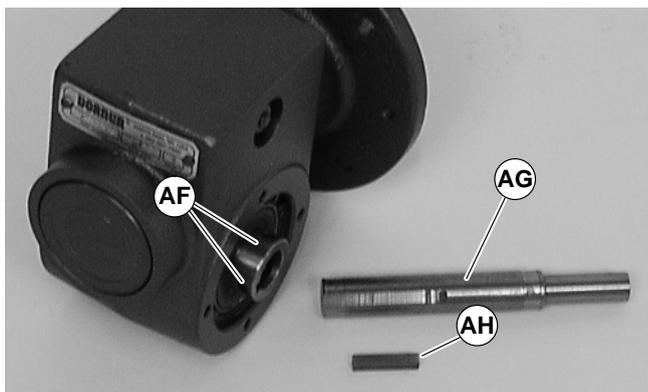

Figure 17
6. Remove two (2) screws (AC) and detach output shaft cover (AD).
7. Loosen six (6) set screws (AF of Figure 17). Remove drive shaft (AG) and key (AH).
8. Remove gear reducer output shaft key (AE).
- Replace the original shaft (AG of Figure 17) and key (AH) into new gear reducer. Tighten set screws (AF) to 3 Nm.